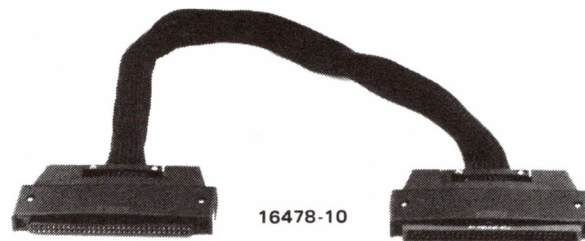

Figure 1-4. Extension Cable
- **Extension Cable (standard accessory)**—Used when adjusting the Video Process PWA. See Figure 1-4.